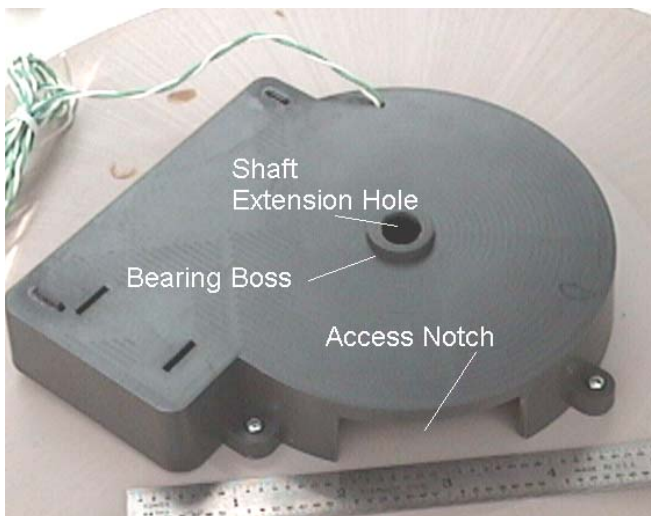

Figure 2: Motor Enclosure Installed on Turntable Pit
- 9) After the bearing CA has "set up", install the motor enclosure to the bottom of the turntable pit. Reference Figure 2. Set the pit/motor enclosure assembly aside.